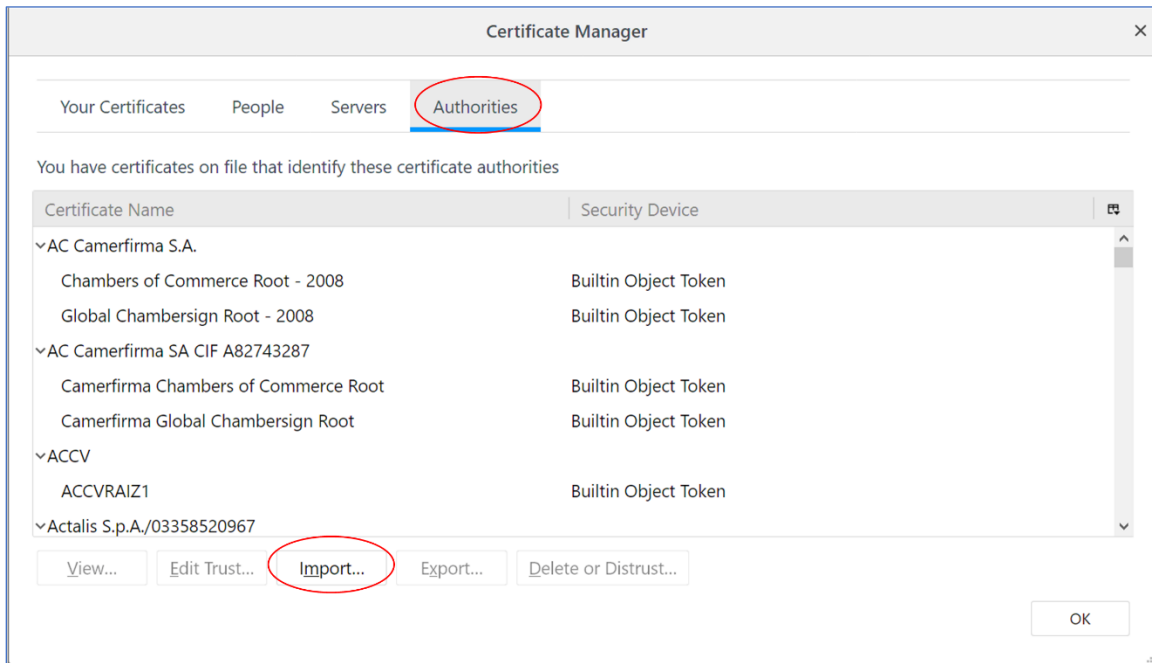

Figure 171: Firefox Certificate Manager
4. Click on the View Certificates... button to view the Certificate Manager, as shown in Figure 171.